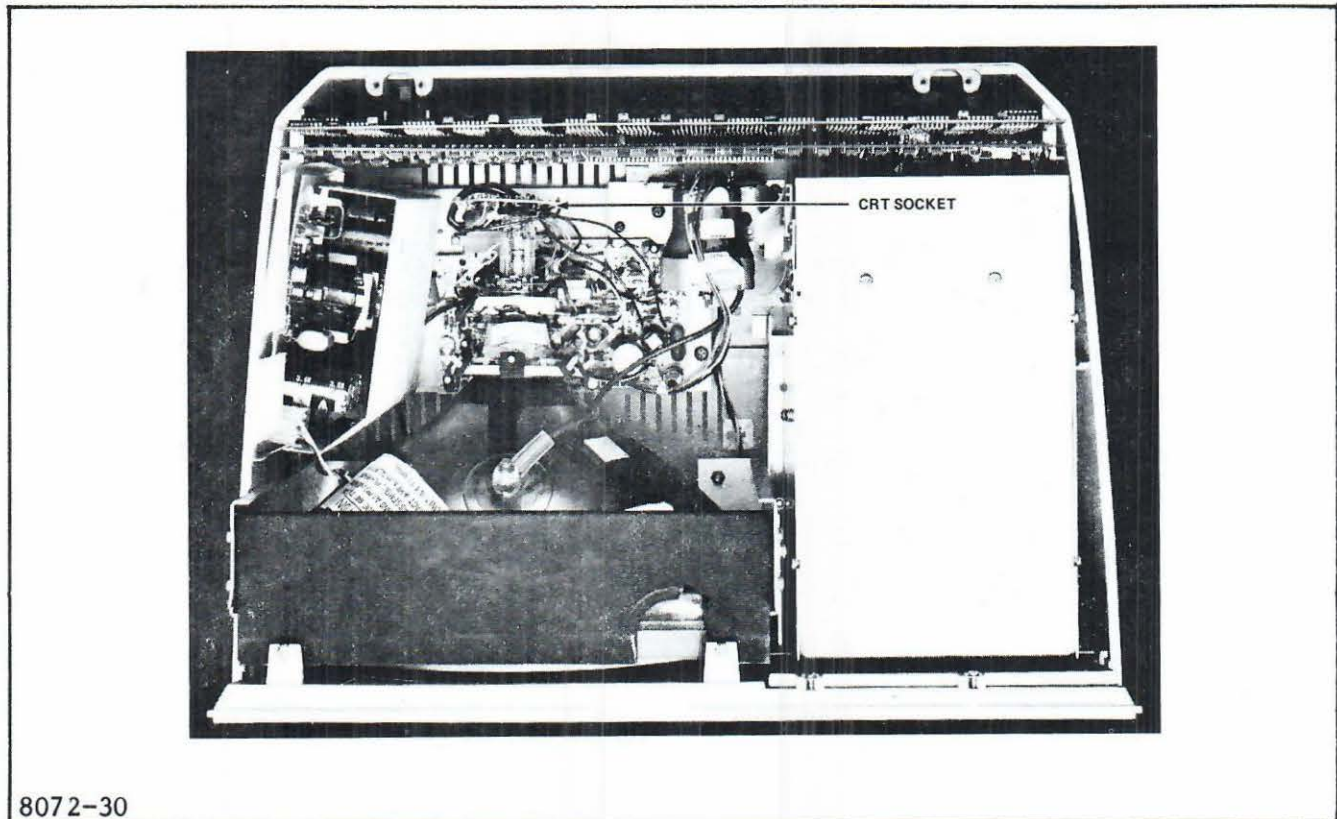

Figure 5-2. CRT Connector
5. Unplug the CRT connector from the CRT neck (see figure 5-2).
4. Unplug the CRT connector from the CRT neck. (see figure 5-2).